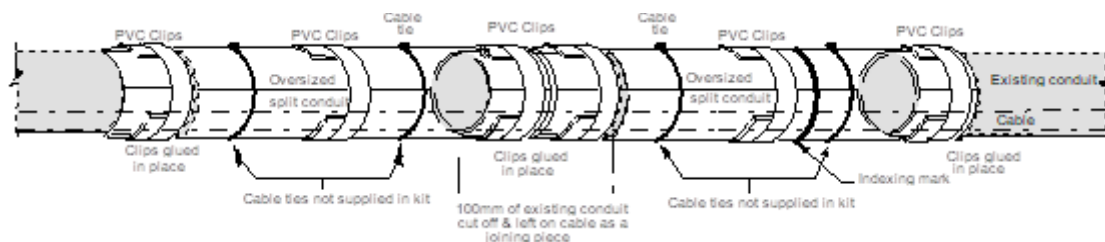

Figure 5 - Repairing using two kits
- Assemble the kits as shown in Figure 5.
- Assemble the repair kit around the bridging piece, as in section 5.2.2.1 and Figure 5 - Repairing using two kits.